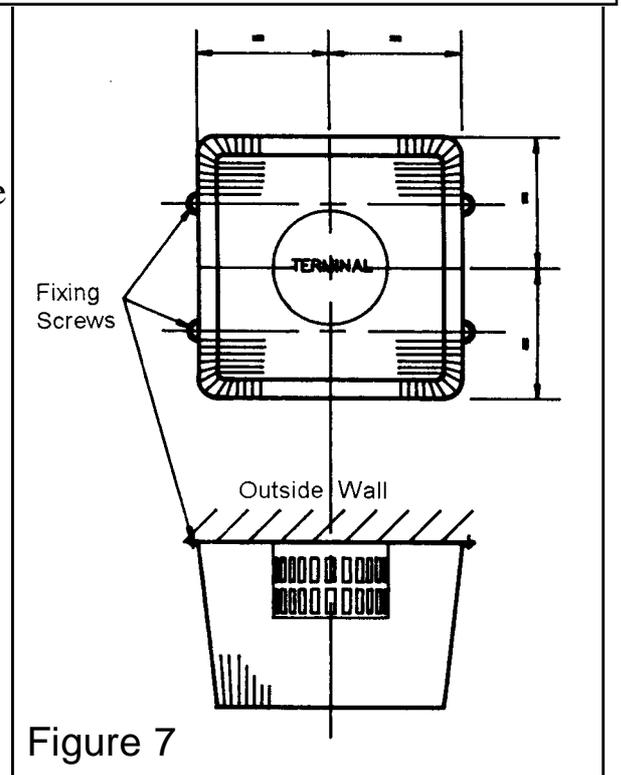

Figure 7
- Place the guard centrally over the flue terminal with the fixing ears at each side - not at the top and bottom. See figure 7.